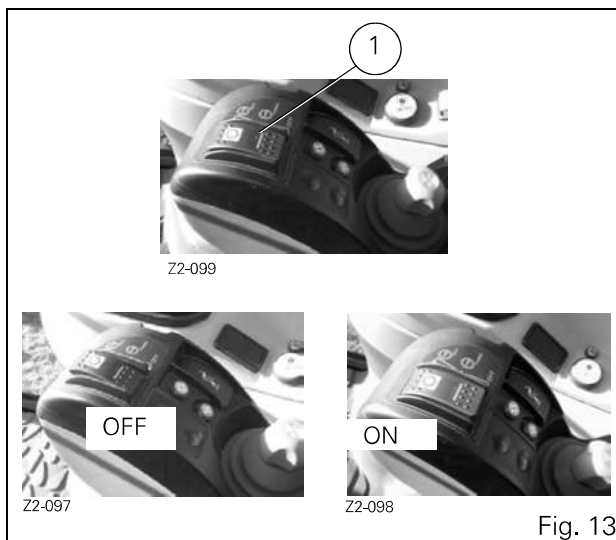

Fig. 13
The choice of automation is carried out by a switch located on the armrest (ref.1, Fig. 13).
- Dynashift automation 1, Fig. 13. Two positions are available on the ON/OFF switch: